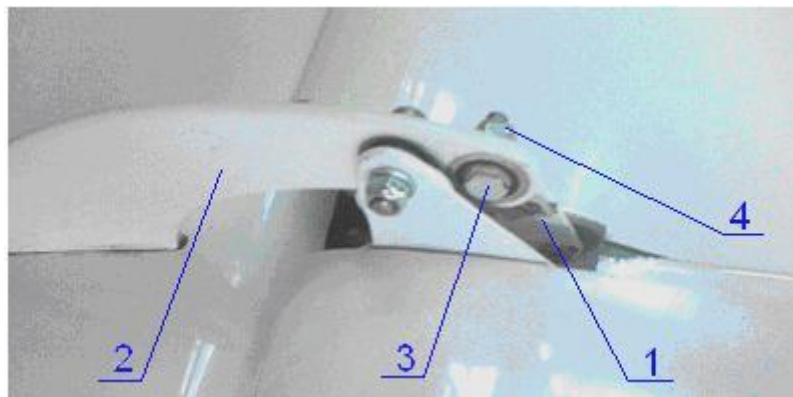
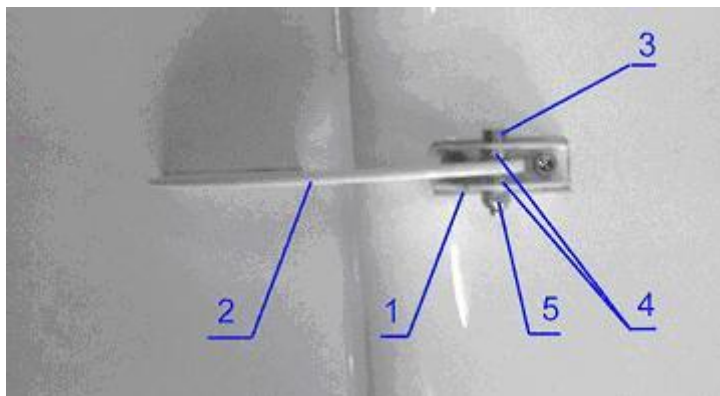

Fig. 2
Fig. 3
Match hole on the root aileron bracket (1) (KW2030010R for the right wing) with hole in the bushing of the bearing of the wing bracket No.3 (2) (KW2010030) and connect them by the bolt (3) KW2020005 (do not fix the bolt by the nut (4) (C9996334, Self-locking nut DIN 985-M6, regular)). Fig. 2.
Match hole in the aileron bracket (1) (KW2030020R) with hole in the bushing of the bearing of the wing bracket No.4 (2) (KW2010040), put 4 washers (4) (C9996504, Washer DIN 9021-6.4 mm VZ) between the wing bracket and the aileron bracket and connect them by the bolt (3) KW2020007 (do not fix the bolt by the nut (5) (C9996334, Self-locking nut DIN 985-M6, regular)) Fig. 3.
Using a washer C99965604 (Washer DIN 125 A2B-6.4 mm) and the nut (5) (C9996334, Self-locking nut DIN 985-M6, regular) fix the bolts KA2020005 and KW2020007 (3). Use new nuts only. Torque the nut with two 8x10 wrenches to 80 lb-in / 9 Nm, Fig. 2 and with one 8x10 wrench and one 5 hex-nut wrench to 80 lb-in / 9 Nm Fig. 3.